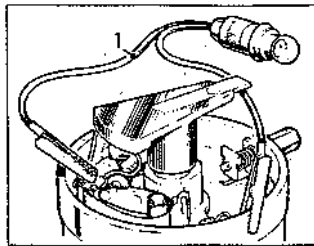

Fig. 4.4 Timing light (1) connected (Sec 8)
- 4 Connect a test lamp (12 volts, up to 5 watts - a sidelight or panel light bulb will do) between the contact breaker points LT terminal and earth (Fig. 4.4). Switch on the ignition. When the points are open, the lamp will light.